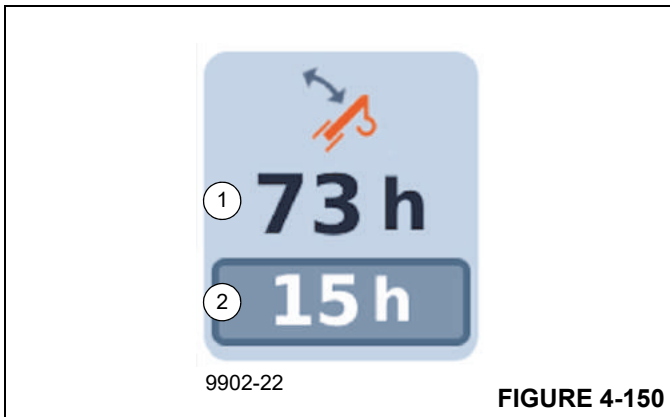

FIGURE 4-150
The top number for each crane function shows the total accumulated hours (1, Figure 4-150). The bottom number is a trip meter and shows total hours since the last reset (2).